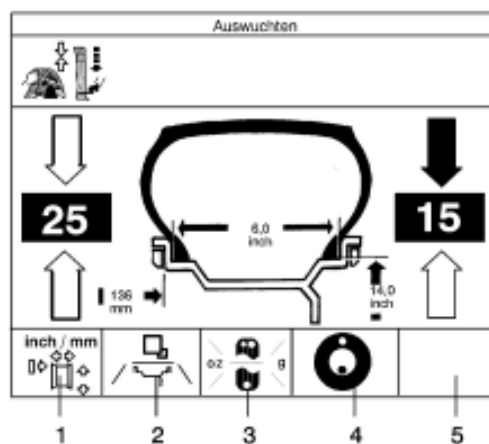

Fig. 46
Next, a screen as in **Fig. 46** (here: wheel type 1, standard balancing mode) comes up.
- Press menu key 3 (toggle switch, Fig. 46, Item 3) on the right.
- Press menu key 3 (toggle switch, Fig. 46, Item 3) on the left.
- Press the Fine key (toggle switch, Fig. 46, Item 2) on the bottom.